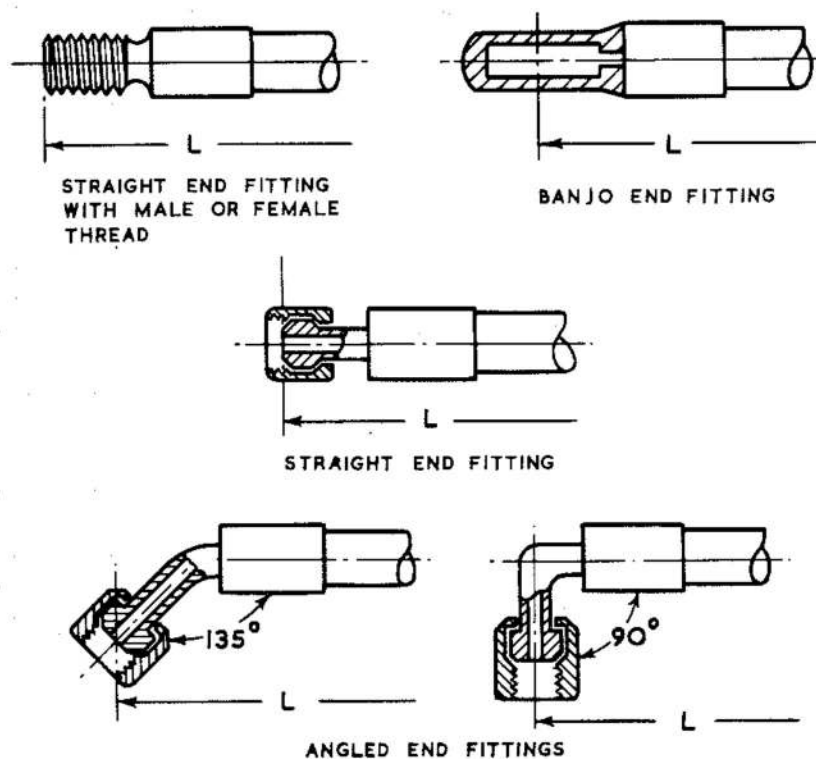

Fig.1 Measurement of hose assembly length
2. The length of a hose assembly is measured between the two points at which the connection sealing surface intersect the centre line of the bore (fig. 1).